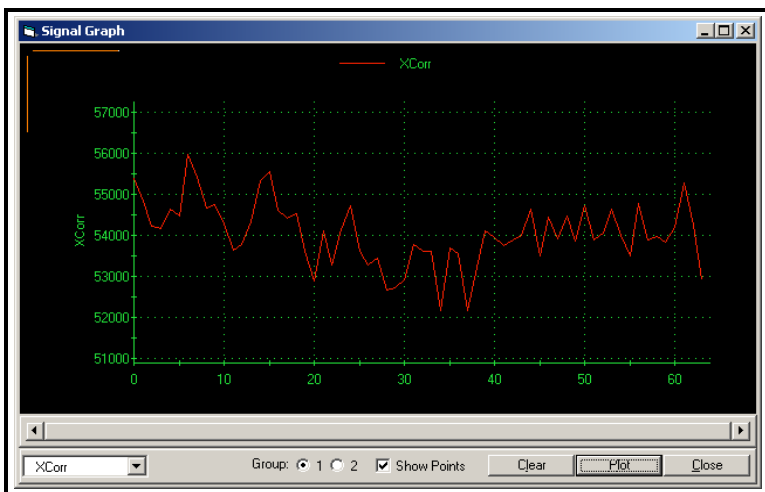

Figure 20: A Cross-Correlation Signal Graph
- Click on [Plot] to plot the signal as a graph. The graph appears similar to Figure 20 on the next page.